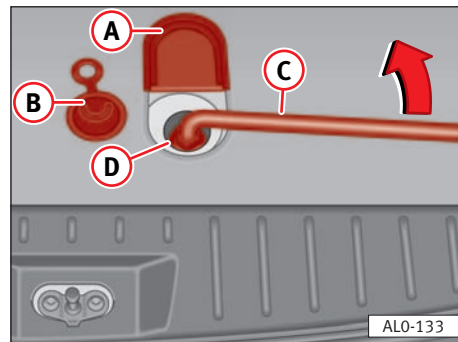

Fig. 171
- Fold the small cover (A) in the luggage compartment floor near tailgate lock in the luggage compartment floor forwards ⇒ fig. 171. ►
- Remove the rubber seal ⇒ **fig. 171 ⑧** on the eyelet upwards.
- Take the wheel spanner ⇒ **fig. 171 ③** from the vehicle tools. Place it as far as it will go over the bolt. Hold in this position and press the locking ring ⇒ **fig. 171 ④** down.
- Turn the box spanner ③ to the left until it is supporting the spare wheel, which is suspended from a steel cable ⇒ **fig. 171**.